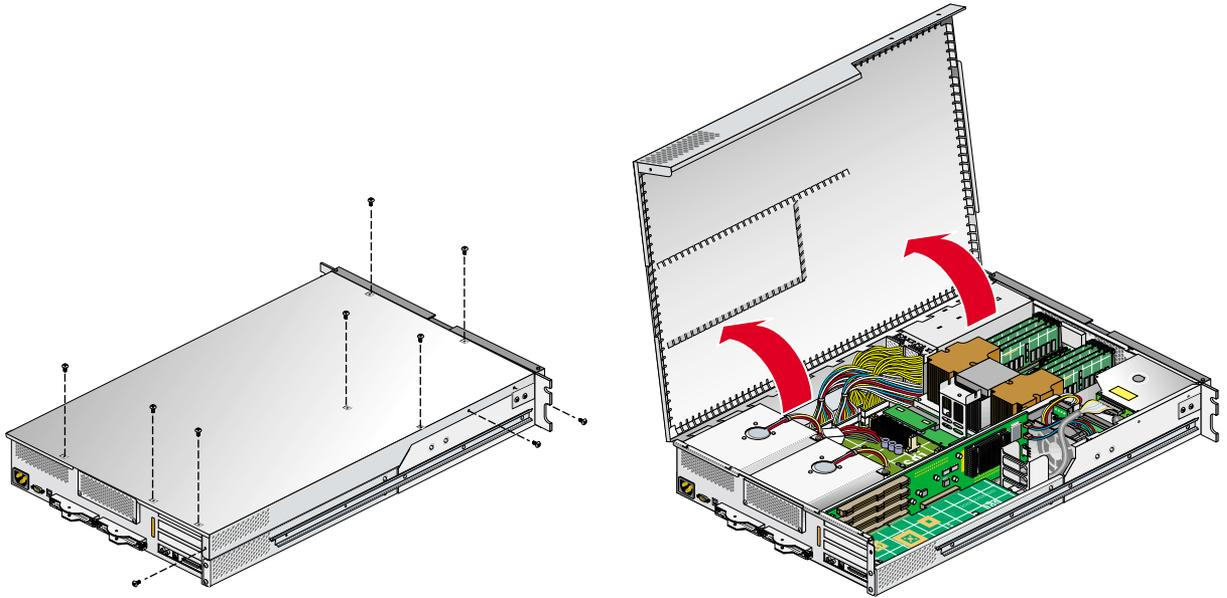

Figure 7-27 Opening Module to Remove DIMM
5. To access the DIMMs, remove the ten Phillips screws shown in Figure 7-27 and open the hinged cover.